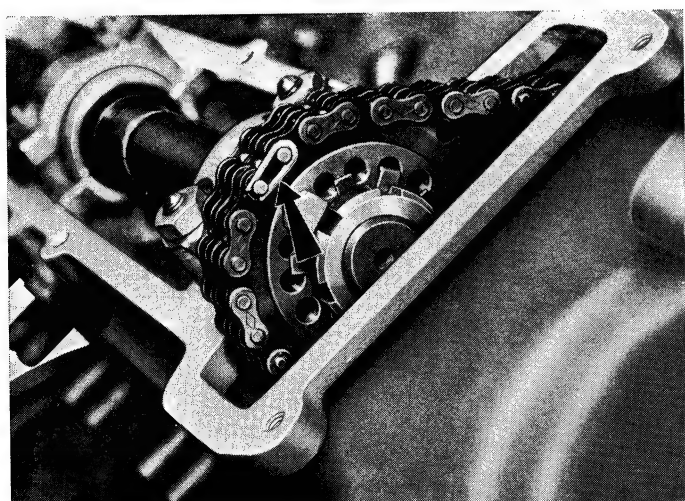

Fig. 60. - Upper timing chain link retainer - engine 118 B.000.
- See if the timing chain removable link is in a visible and accessible position (fig. 60); if not, turn flywheel until the alignment of reference marks and the correct location of chain removable link are obtained.
- Install the upper chain, locating the removable link retainer in the position shown in fig. 60, and stretch the chain as instructed on next page. Using a sector scale, and turning the flywheel, check that the advance and retard angles, respectively at opening